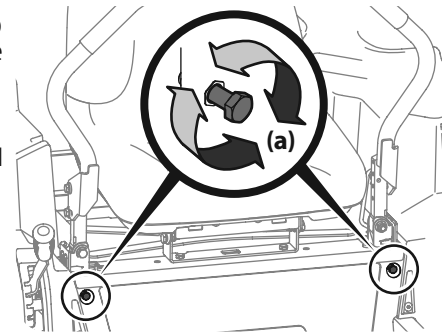

Figure 44
2. Locate the lapbar drive control lever stop adjustment bolts (a) on the front of the seat frame. See Figure 44.